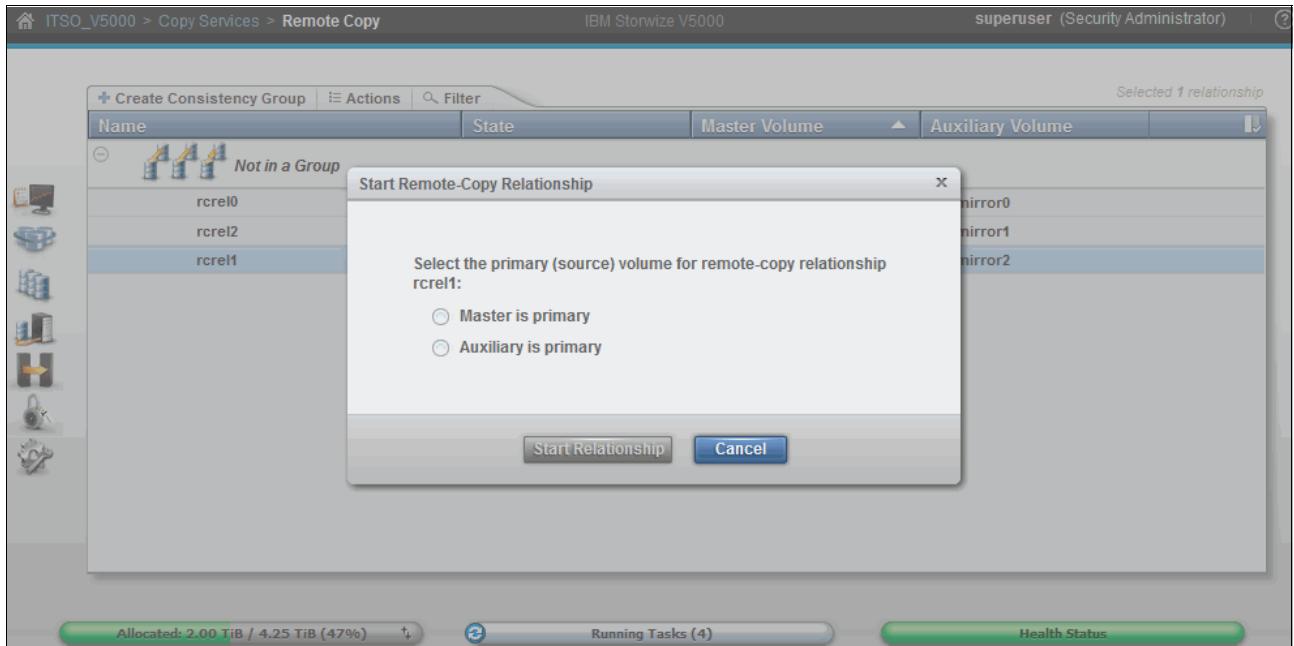

Figure 10-113 Choose the copy direction
- When a Remote Copy relationship is started, the most important item is selecting the copy direction. Both master and auxiliary volumes can be the primary. Make your decision based on your requirements, and click **Start Relationship**. In our example, choose the master volume to be the primary, as shown in Figure 10-113.